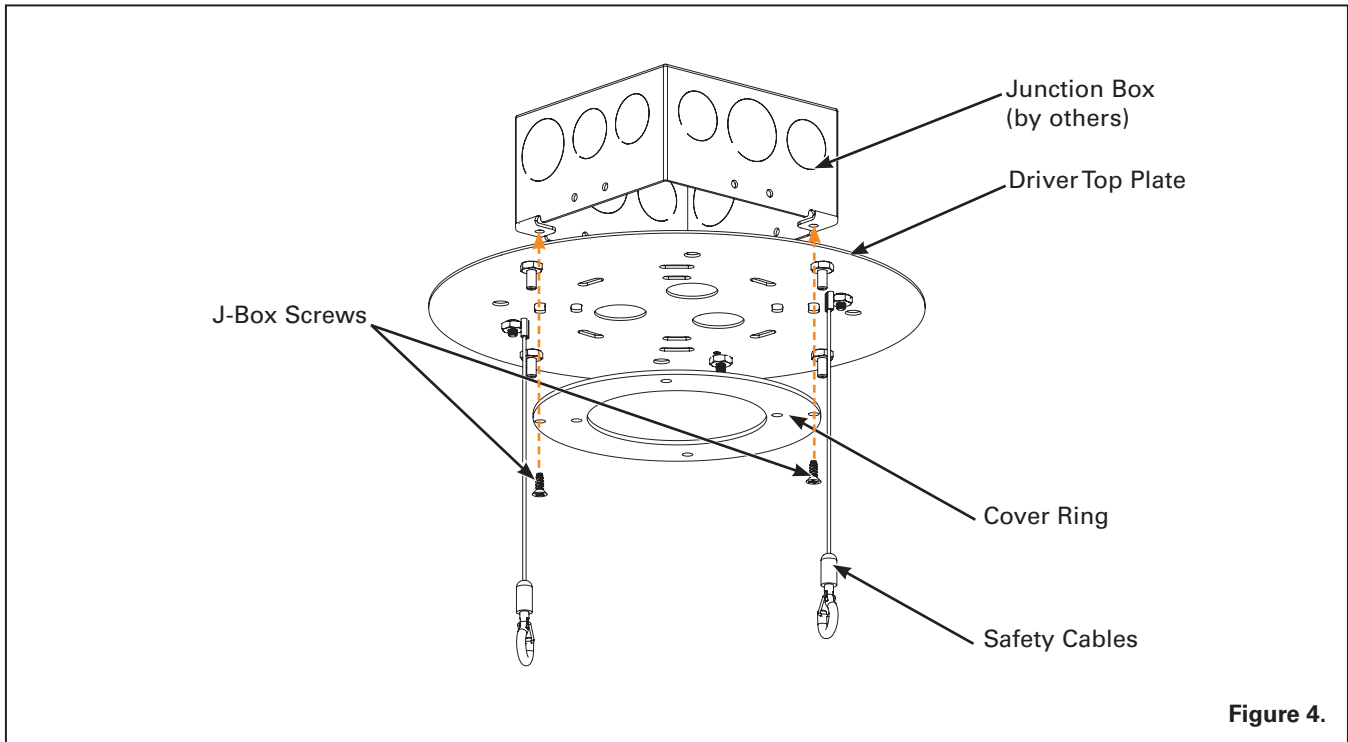

Figure 4.
Step 2. Using the J-Box screws, align the Cover Ring to inside of the DriverTop Cover. Screw the cover ring and the driver top plates to the J-Box. The Cover Ring must be used to reinforce the center of the Top Plate. Figure 4